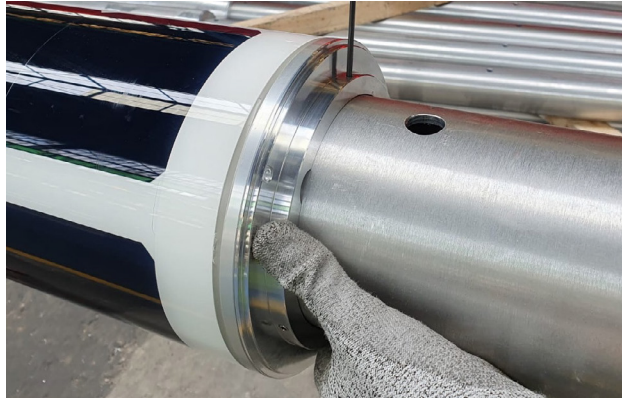

Fig. 8-11: Installing Middle Adapter Ring Set Screws
11. Evenly fasten the middle adapter ring with the three (3) set screws using a 3mm hex key. Apply firm downward pressure on the middle adapter ring while mounting. This ensures good contact between the solar module and the bumpers on the bottom adapter ring (refer to Figure 8-11).
9. Evenly fasten the middle adapter rings with the three (3) set screws each using a 3mm hex key. Apply firm downward pressure on the adapter ring while mounting. This ensures good contact between the solar module and the bumpers on the bottom adapter ring (refer to Figure 8-11).
9. Evenly fasten the top adapter ring with the three (3) set screws using a 3mm hex key. Apply firm downward pressure on the adapter ring while mounting. This ensures good contact between the solar module and the bumpers on the bottom adapter ring (refer to Figure 8-11).